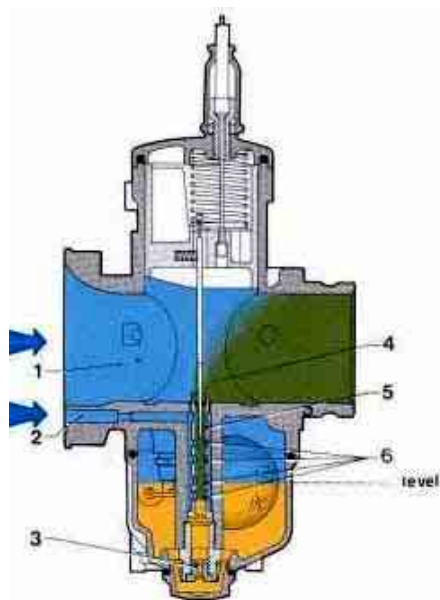

fig. 24
**Figure 24** shows the full-throttle system used on four-stroke engines which utilises air to change the amount of fuel delivered by atomiser following sudden throttle openings.